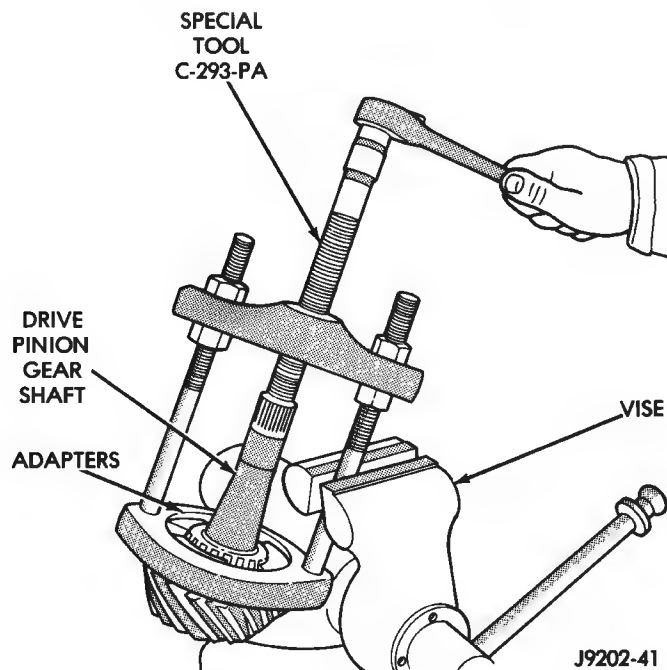

Fig. 36 Inner Bearing Removal
(7) Remove the inner bearing from the pinion with Puller C-293-PA and Adapter C-293-39 (Fig. 36).